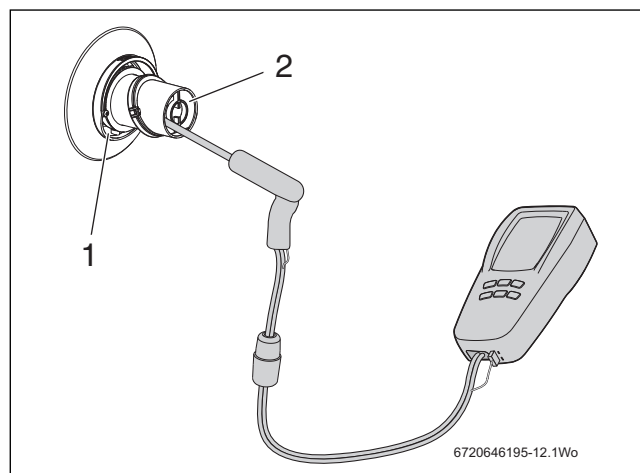

Fig. 70 Combustion test
- Connect the flue gas analyser to the flue gas sampling point as shown in the figure 70.